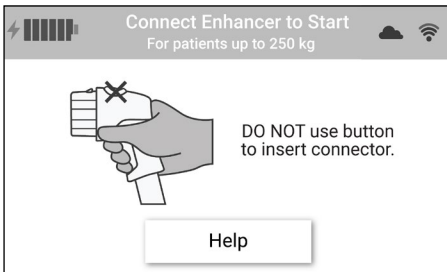

Figure 1. Set up screen
1. Prior to patient use, the set up screen will display. (Fig. 1)